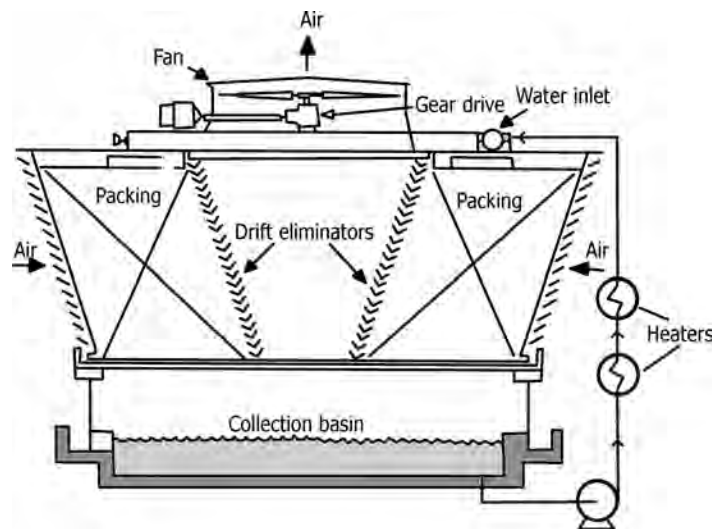

FIGURE 18.19 Induced draft cooling tower.
- Figure 18.19 is a schematic diagram of an induced draft cooling tower.